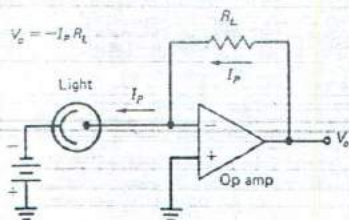

Fig. 14-90 Phototube coupled to op amp.
Since the phototube current is a function of the anode-cathode voltage, if below 20 V or so, it is important that the voltage developed across the load resistor be as small as possible compared to the applied voltage. This places a limit on the value of the load resistor if a linear response is required (as it almost always is). This problem can be overcome by using an operational amplifier, as shown in Fig. 14-90. This configuration has been shown previously as either a current-to-voltage or transimpedance amplifier, where
37. Refer to Fig. 14-90. If I_p is $-10 \mu\text{A}$ and R_L is $100 \text{ k}\Omega$, V_o equals _____.